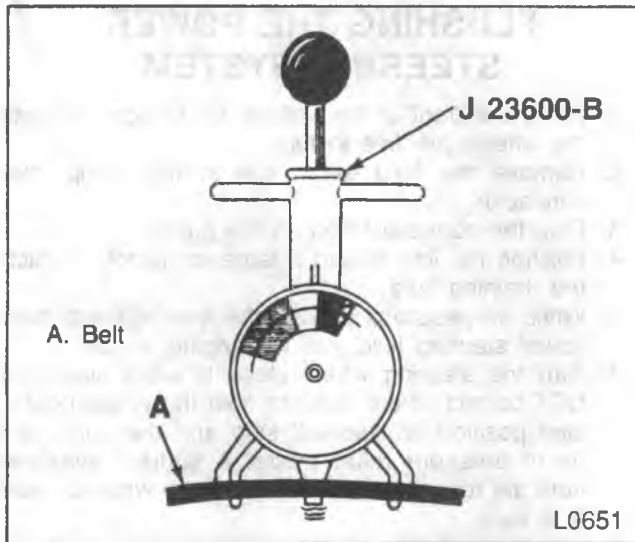

Figure 7—Checking Drive Belt Tension
1. Place belt tension gage J 23600-B or equivalent midway between the pulleys on the drive belts being checked (figure 7).